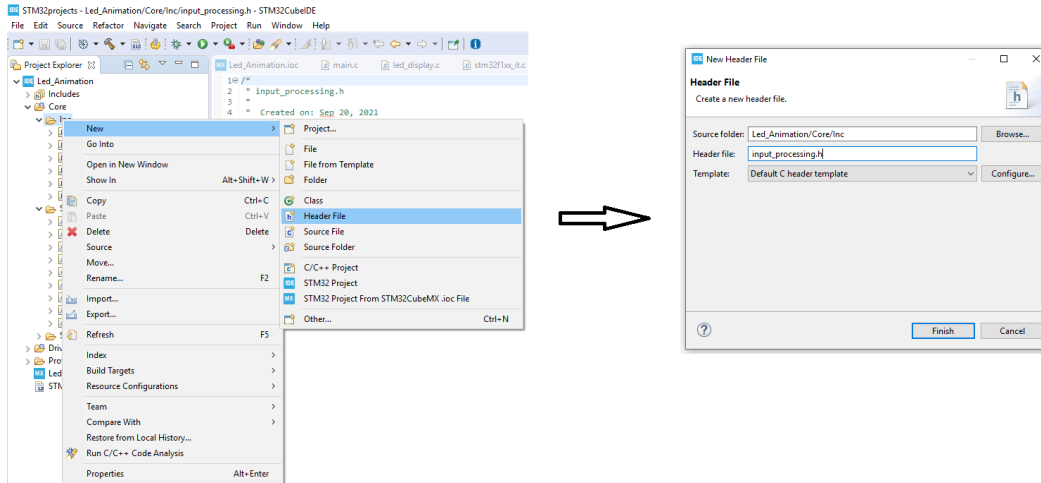

Figure 8: Step 2: Create a C header file for input processing
Step 2 (Figure 8): Do the same for the C header file in the folder **Inc**.